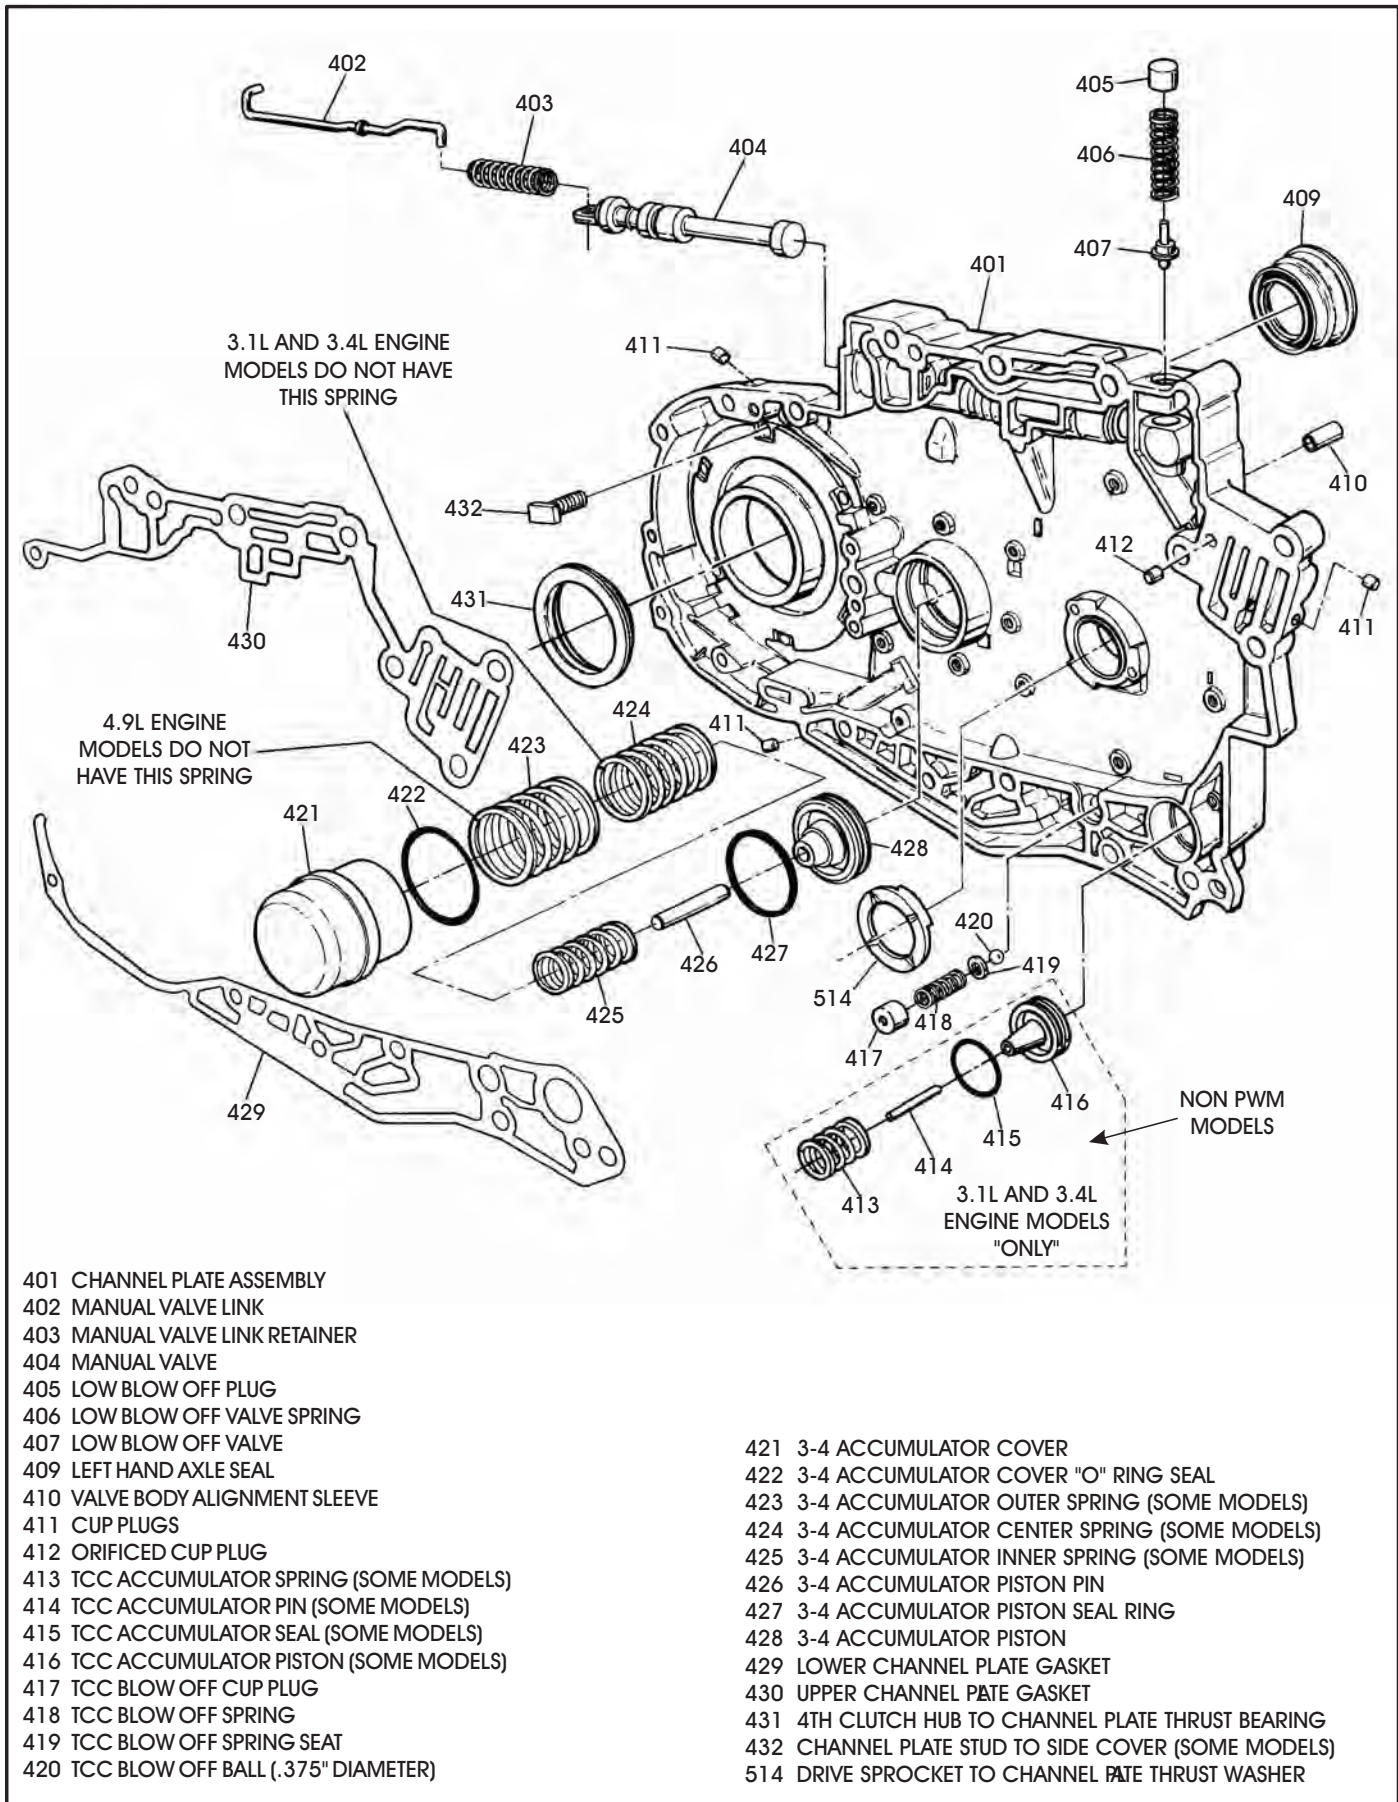

Figure 139
1. Disassemble the channel plate assembly using Figure 139 as a guide.
7. Install the TCC accumulator piston with a new seal into channel plate, if used, as shown in Figure 139,
8. Install 3-4 accumulator springs into the cover, as shown in Figure 139, ensuring that you have the proper springs for model you are building.
9. Install 3-4 accumulator piston into the cover with a new seal, as shown in Figure 139.
10. Install the 3-4 accumulator pin through the piston in cover (See Figure 139).
11. Install the 3-4 accumulator assembly into the channel plate, using a new "O" ring seal, as shown in Figure 139.
12. Install drive sprocket to channel plate thrust washer onto channel plate, retain with a small amount of Trans-Jel®. (See Figure 139).
13. Install the 4th clutch hub to channel plate thrust bearing, by pressing it into channel plate, as shown in Figure 139.
14. Install the manual valve with link and retainer into channel plate, as shown in Figure 139.